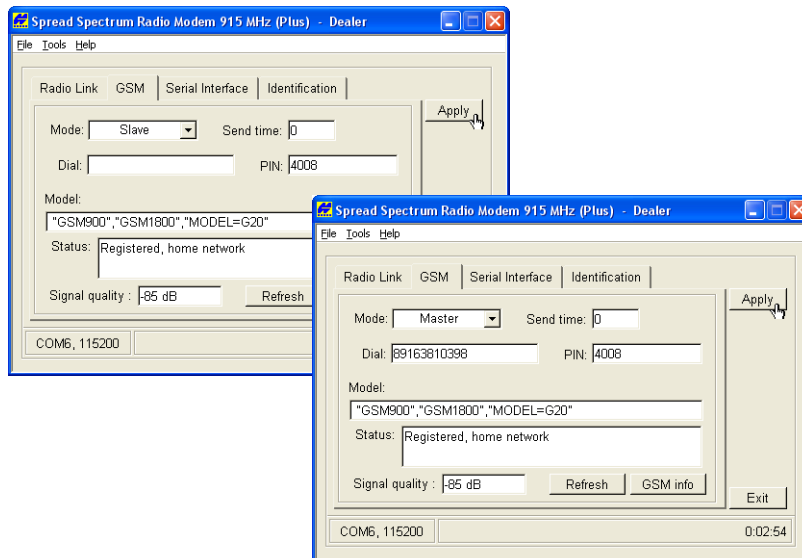

**Figure 3-3. Connect to Modem-TPS**
2. Open Modem-TPS and select the COM port the receiver is connected to (Figure 3-3). Click **Connect**.